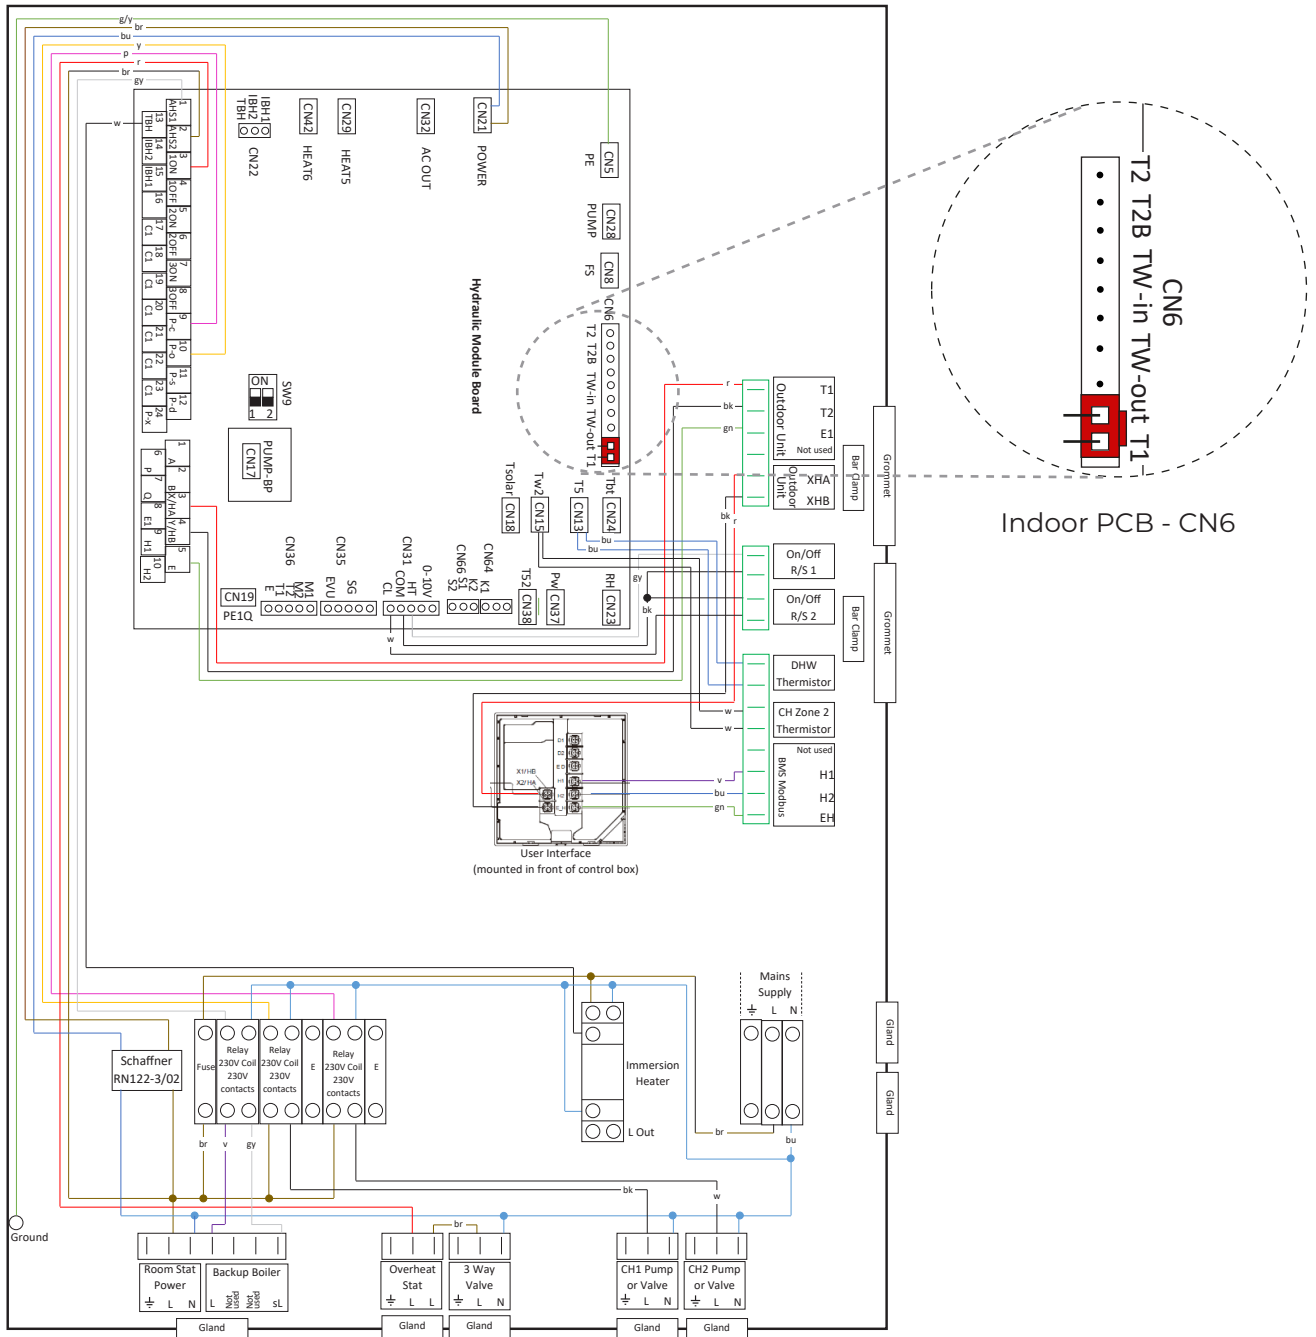

Figure 3. HP290 Control Box - Internal Wiring
5. Attach the T1 Common Flow Thermistor (supplied with the Hybrid Kit) to connector CN39 (Figure 2) on the outdoor unit or CN6 on the indoor unit (Figure 3).
Note. If it is preferred to connect the T1 Common Flow Thermistor to the indoor PCB, then connect the provided Thermistor Extension Wire (400 mm), to the T1 Thermistor. Make sure that power to the indoor control box is isolated, remove the cover and connect the Thermistor Extension Wire (400mm) to CN6 on the indoor PCB (Figure 3).